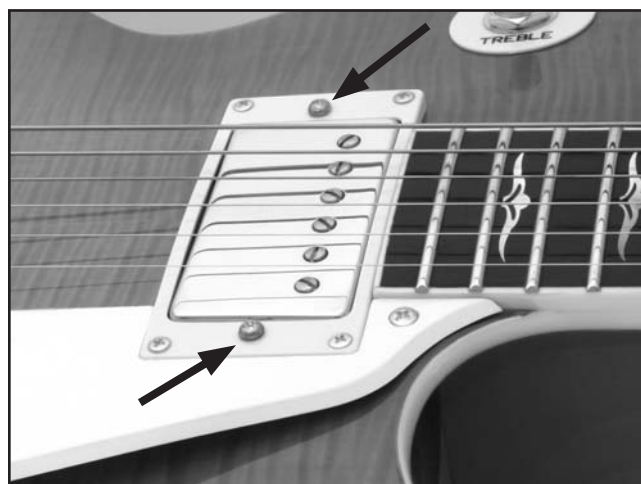

Figure 30. Pickup height adjustment.
4. Adjust the screws shown in **Figure 30** until the gap between the strings and the pickup is $\frac{3}{32}$ ".
5. Measure the bridge pickup and adjust the screws shown in **Figure 30** until the gap between the strings and the pickup is $\frac{1}{16}$ ".